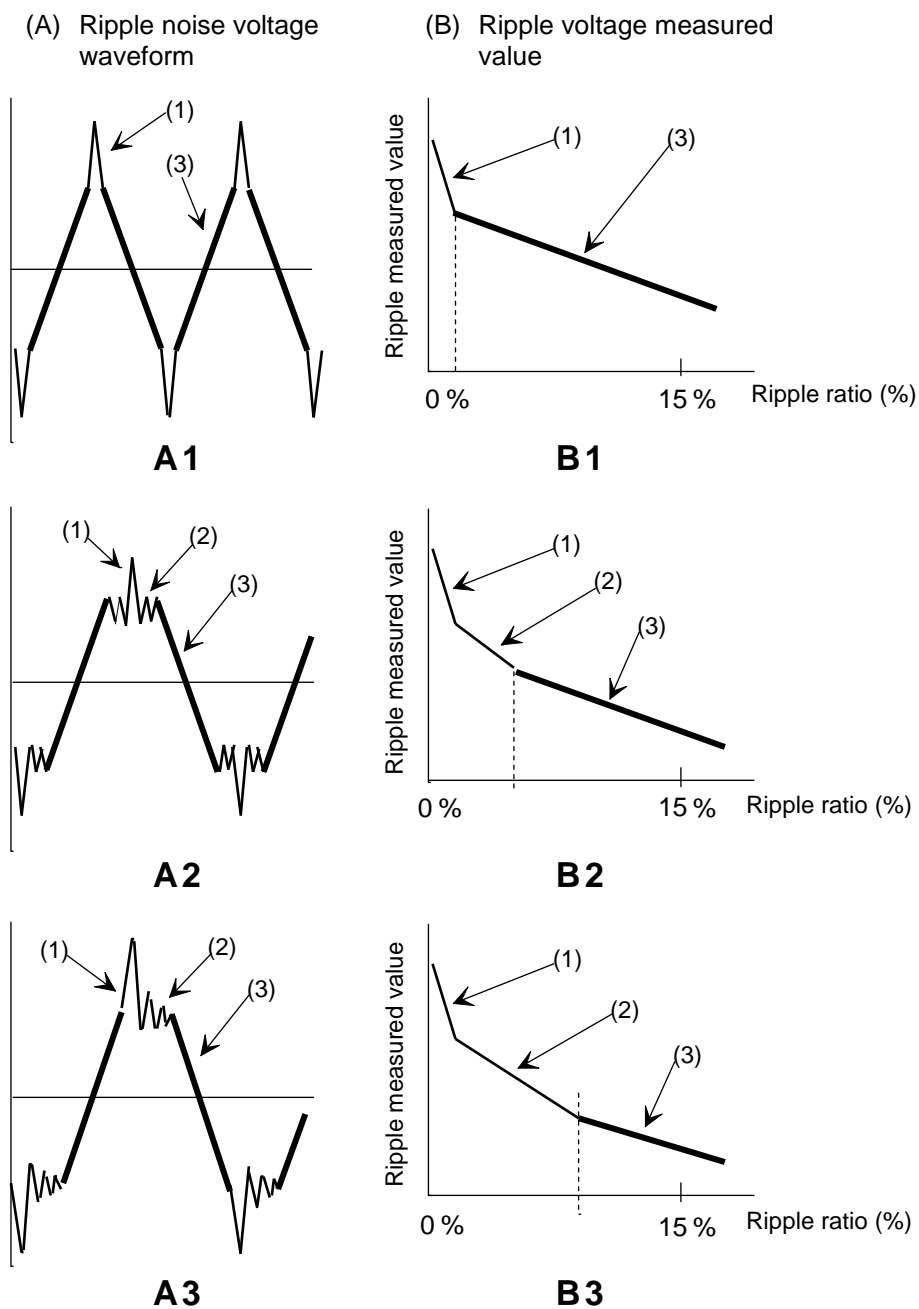

Figure B.4 Explanation of Ripple Ratio
Figure B.4 shows ripple voltage measurement value (B) against representative ripple noise voltage waveform (A), for each ripple ratio.